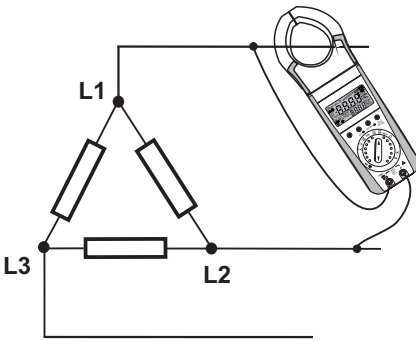

Fig 12.2.1 Connection diagram for 3ph3w balance load
- 2) Meter will show L1-2 and I -1 on display. Connect meter to phase 1-2 as shown in fig 12.2.1.